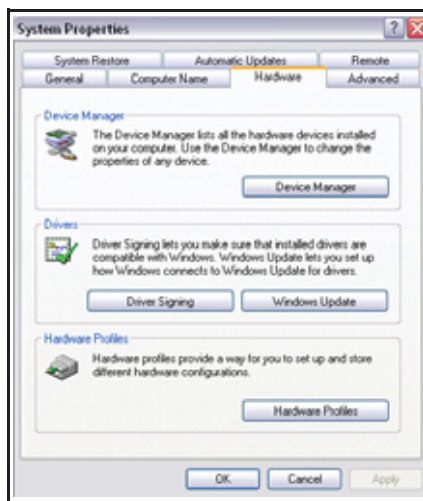

Figure 6.1: USB-B Male Connector and P40N+ USB Port
2. Connect the USB cable from your PC to the port: using a USA-A Male to USB-B Male cable, attach the USB-A connector to the PC and attach the USB-B connector to the P40N+ USB port. See Figure 6.1.